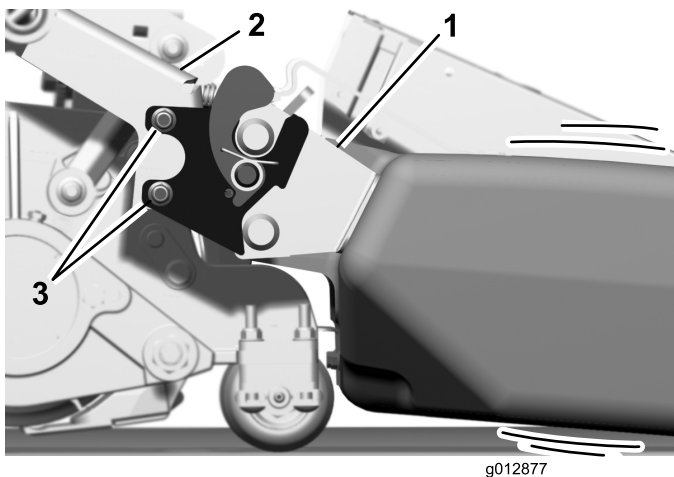

**Figure 16**
When the cutting unit is raised, the roller bumper should always contact the wear strip on the top shield of the grass basket (Figure 16).
1. When installing the rear center cutting unit, ensure that the spacer on the lift arm pin is installed behind the cutting unit carrier frame as shown in Figure 16.